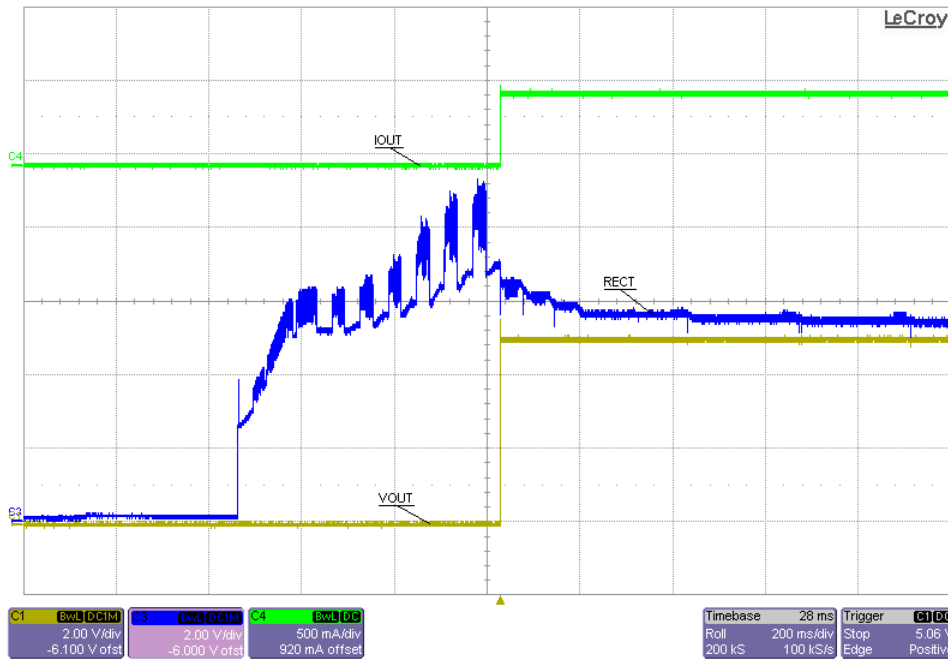

Figure 4. Start Up With 500 mA
- Monitor the RECT pin,  $I_{OUT}$ , and output voltage, as shown in Figure 4.